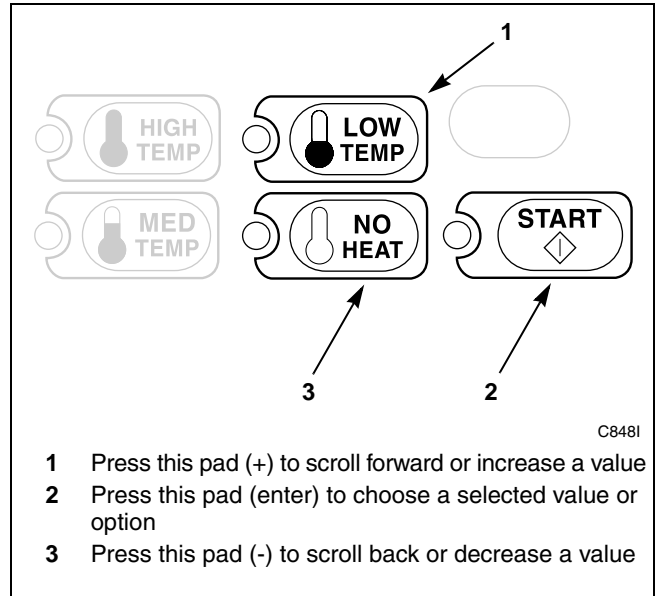

Figure 83
5. Press the LOW TEMP (+) or the NO HEAT (-) keypad to increase or decrease the current number of seconds displayed in the VFD to the desired number of seconds. Refer to *Figure 83*.
**NOTE: Special Vend A No Heat Time Seconds can be set from zero (0) to 59 seconds.**